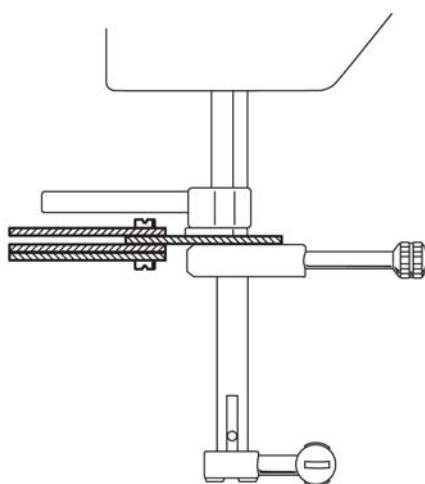

Fig. 3a
- Tighten the knurled screw of the needle-rise clamp (fig. 3a).